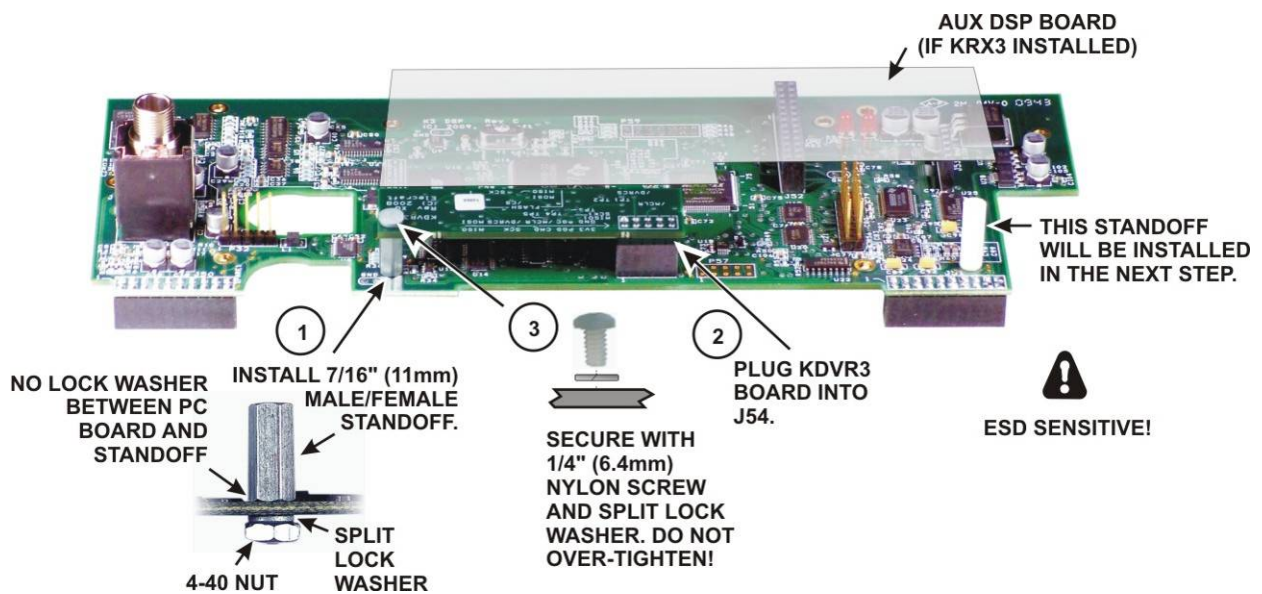

Figure 26. Installing the KDVR3 Board.
If you have the KDVR3, install it on the main DSP board as shown in Figure 26. The required hardware is included in your KDVR3 kit. If you did not purchase the KDVR3, skip this step and continue with *Mounting the DSP Board Assembly on the Front Panel* on page 26.
- Locate the main DSP board and install the nylon standoff near J51 as shown below. Be sure you place it in the correct hole near the edge of the board. The standoff is also shown in Figure 26.